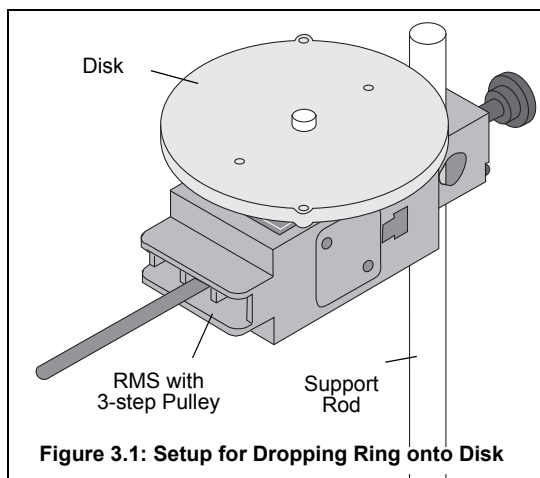

Figure 3.1: Setup for Dropping Ring onto Disk
1. Mount the Rotary Motion Sensor to a support rod and connect it to the interface. Place the disk directly on the pulley as shown in Figure 3.1.